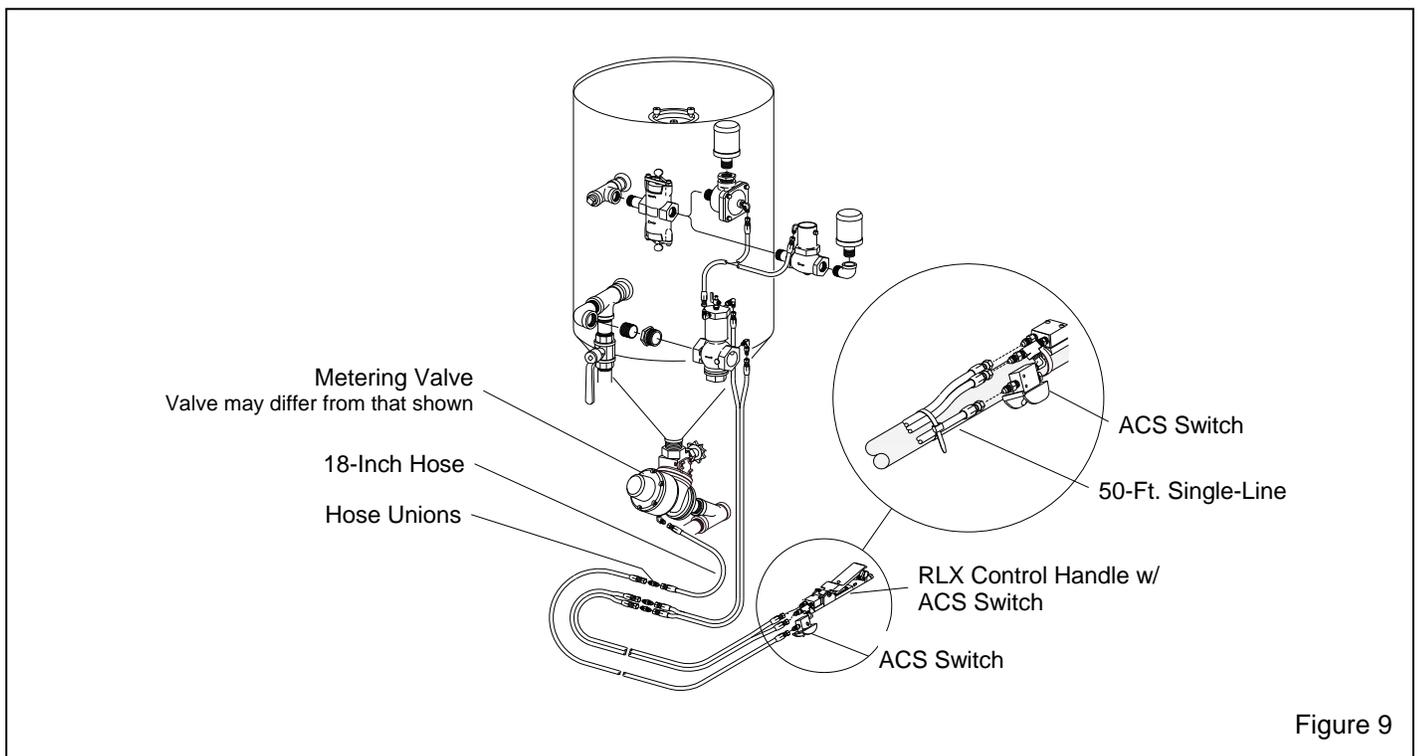

Figure 9
**1.4.4.2** Parts used with an optional ACS are shown in Figure 9. In addition to the standard remote controls, an ACS also includes a 50-ft. single-line hose, an additional 18-inch-long interconnecting hose, an RLX control handle with ACS air switch assembly, and a pneumatically operated metering valve. The metering valve supplied with the system may differ from the one shown. A separate owner's manual is supplied with an alternate metering valve.
**2.7 Additional Setup for ACS Option - Figure 9**